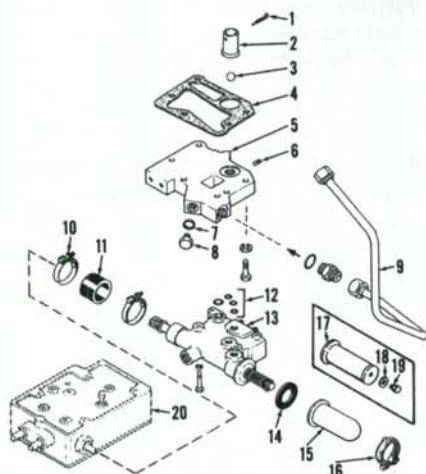
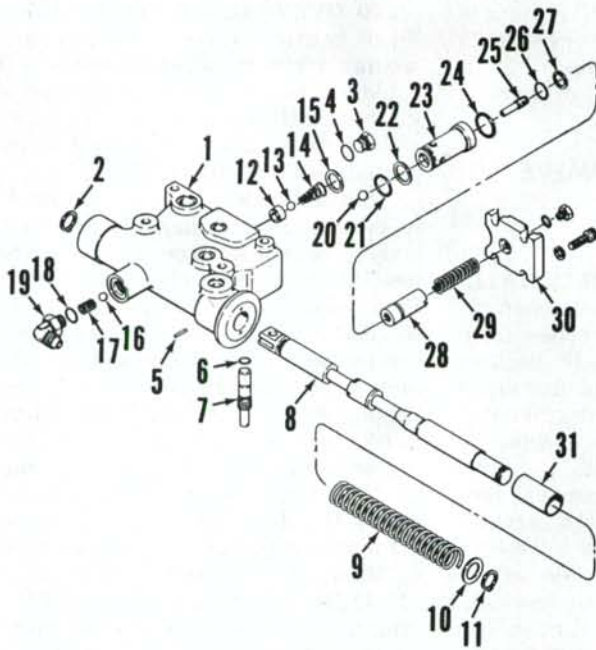

Fig. 273—Exploded and schematic view of hydraulic hitch control valve and related components.
Fig. 276—Exploded view of hitch control valve used on all models.
265. CONTROL SPOOL STROKE. To adjust control spool stroke, refer to Figs. 273 and 274, start engine and raise draft arms fully, then lower arms about 3/4 the way downward and stop engine. On models without cover cap screw (19—Fig. 273), remove spring cover (15) and using a depth micrometer, measure length of valve spool from end of spool to flange of valve body and record measurement (see Fig. 274). Start engine, move hitch control lever slowly toward raise position until draft arms just start to raise, then stop arm movement and stop engine. Remeasure spool length. Subtract first measurement from
second measurement. Difference should be 0.007-0.015 inch (0.178-0.381 mm). If specifications are not correct, support draft arms in raise position, remove cover (30—Fig. 276), and remove lowering piston assembly (25 through 29). Refer to Fig. 275 and adjust lowering piston screw (25—Fig. 276) to increase or decrease lowering spool travel.
266. On models with control spool cover equipped with cap screw (see insert Fig. 273), start engine. Fully raise draft arms, then lower them to center position. Remove cap screw (19) from spool cover, install a 1/4-20 x 3 inch full thread bolt until it just contacts the valve spool. Set up a dial indicator on the bolt installed, preload and then zero indicator. Turn bolt clockwise until draft arms just start to lower and record reading on dial indicator. Readjust dial indicator to zero and move hitch control hand lever one inch (25.4 mm) toward raise position. Turn installed bolt counterclockwise until draft arms just start to raise and record reading on dial indicator. Subtract first reading from second. Difference must not be more than 0.007-0.015 inch (0.178-0.381 mm). If specifications are not correct, adjust lowering piston screw (25—Fig. 276) as previously outlined in paragraph 265. Recheck and adjust as necessary until correct control spool travel is obtained. On models with cap screw in spool
cover, renew seal (18—Fig. 273) upon reassembly.
269. REMOVE AND REINSTALL. Refer to Fig. 273, drain transmission oil, disconnect all hydraulic tubes from manifold (5) and valve (13). Remove clamps (10) and tube (11) and disconnect spool from valve to draft control housing. Unbolt manifold (5) and separate from hitch valve body (13).
270. OVERHAUL CONTROL VALVE. With control valve removed and separated from manifold, disassembly of valve will be obvious after removal of spool cover (15 and 17—Fig. 273) and examination of unit and referral to exploded view of valve in Fig. 276.